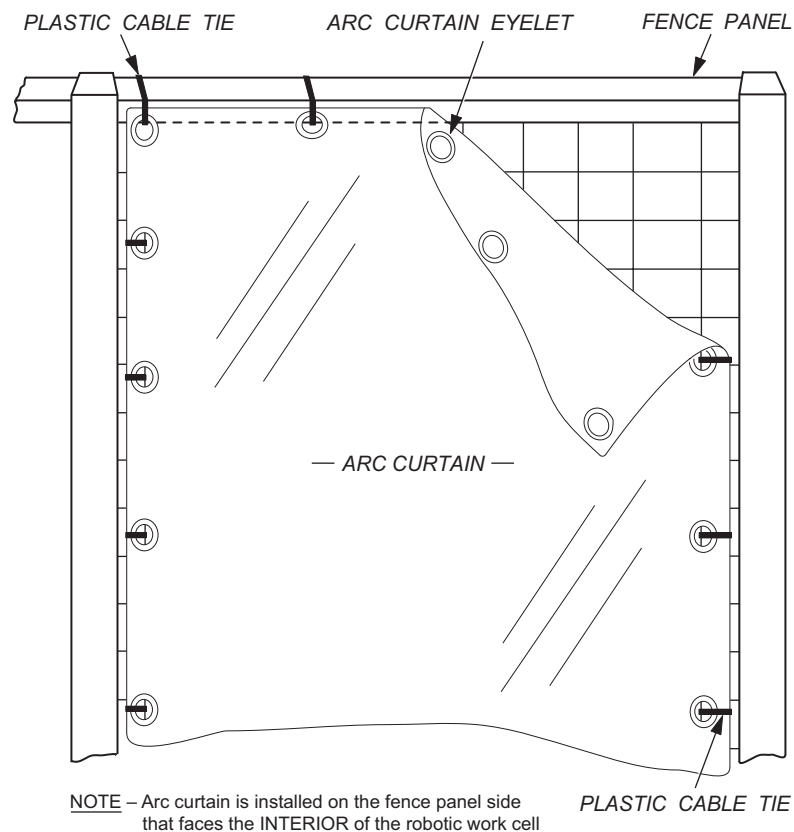

Figure 12 Arc Curtain Installation on Typical Safety Fence Panels
1. Unfold each arc curtain and install one arc curtain on the inside of each work cell safety fence panel, using supplied plastic cable ties and the eyelets in each arc curtain (see Figure 12).
3. Install the door panel arc curtain on the inside of the door panel, using the supplied plastic cable ties and the eyelets in the arc curtain (see Figure 12).